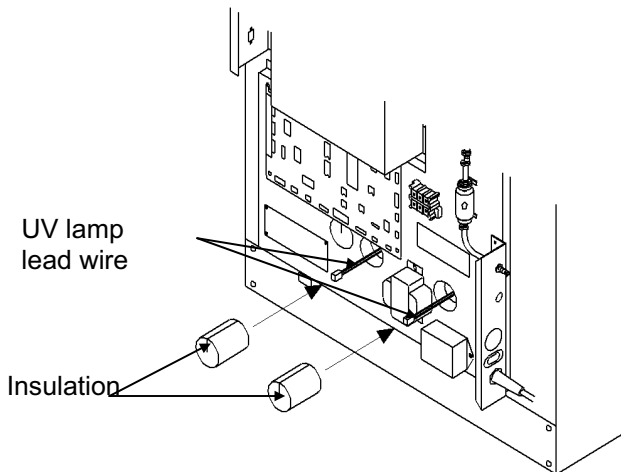

Fig. 6
7. Replace the insulations into the UV lamp lead wire hole with the wires passed through the cuts on both insulations. See Fig. 6.